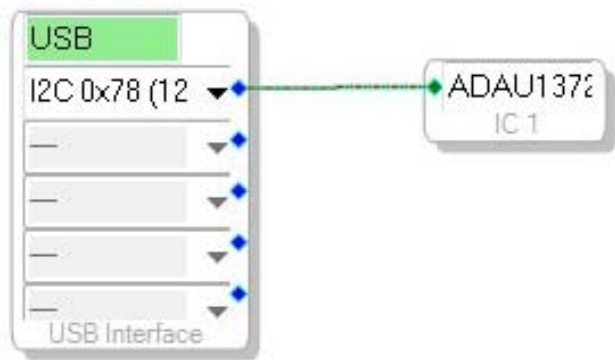

Figure 16. Connecting the USB Interface to an ADAU1372 IC
To use the USB interface to communicate with the target integrated circuit (IC), connect it by clicking and dragging a wire between the blue pin of the USBi and the green pin of the IC (see Figure 16). The corresponding list of the USBi automatically fills with the default mode and channel for that IC.